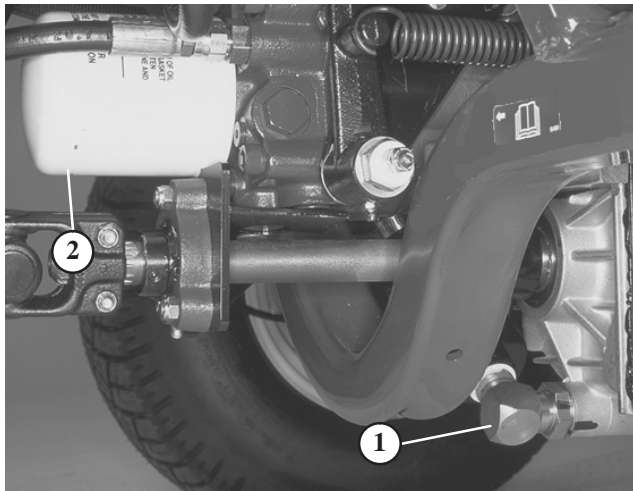

Figure 67
2. Clean area around suction line on bottom of transmission (Fig. 67). Place drain pan under line.
- Clean area around filter mounting area (Fig. 67). Place drain pan under filter and remove filter.